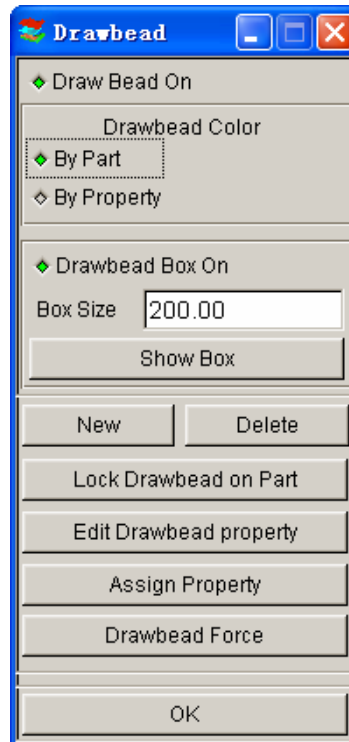

Figure 9.4.1 The Define Draw bead dialog window.
The functions in the DRAW BEAD menu are used to create, modify, and assign draw beads. The dialog window is shown in Figure 9.4.1.
1. Select NEW from the DRAWBEAD dialog window as shown in Figure 9.4.1.